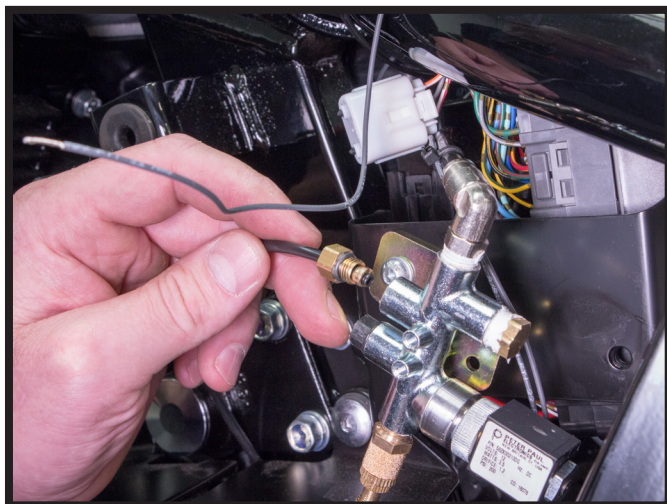

FIGURE 35
16. TRIM THE 4MM HOSE TO LENGTH. USING THE SAME PROCEDURE AS IN STEP #11 SCREW THE VOSS FITTING INTO THE AIR MANIFOLD. (FIGURES 35, 36)